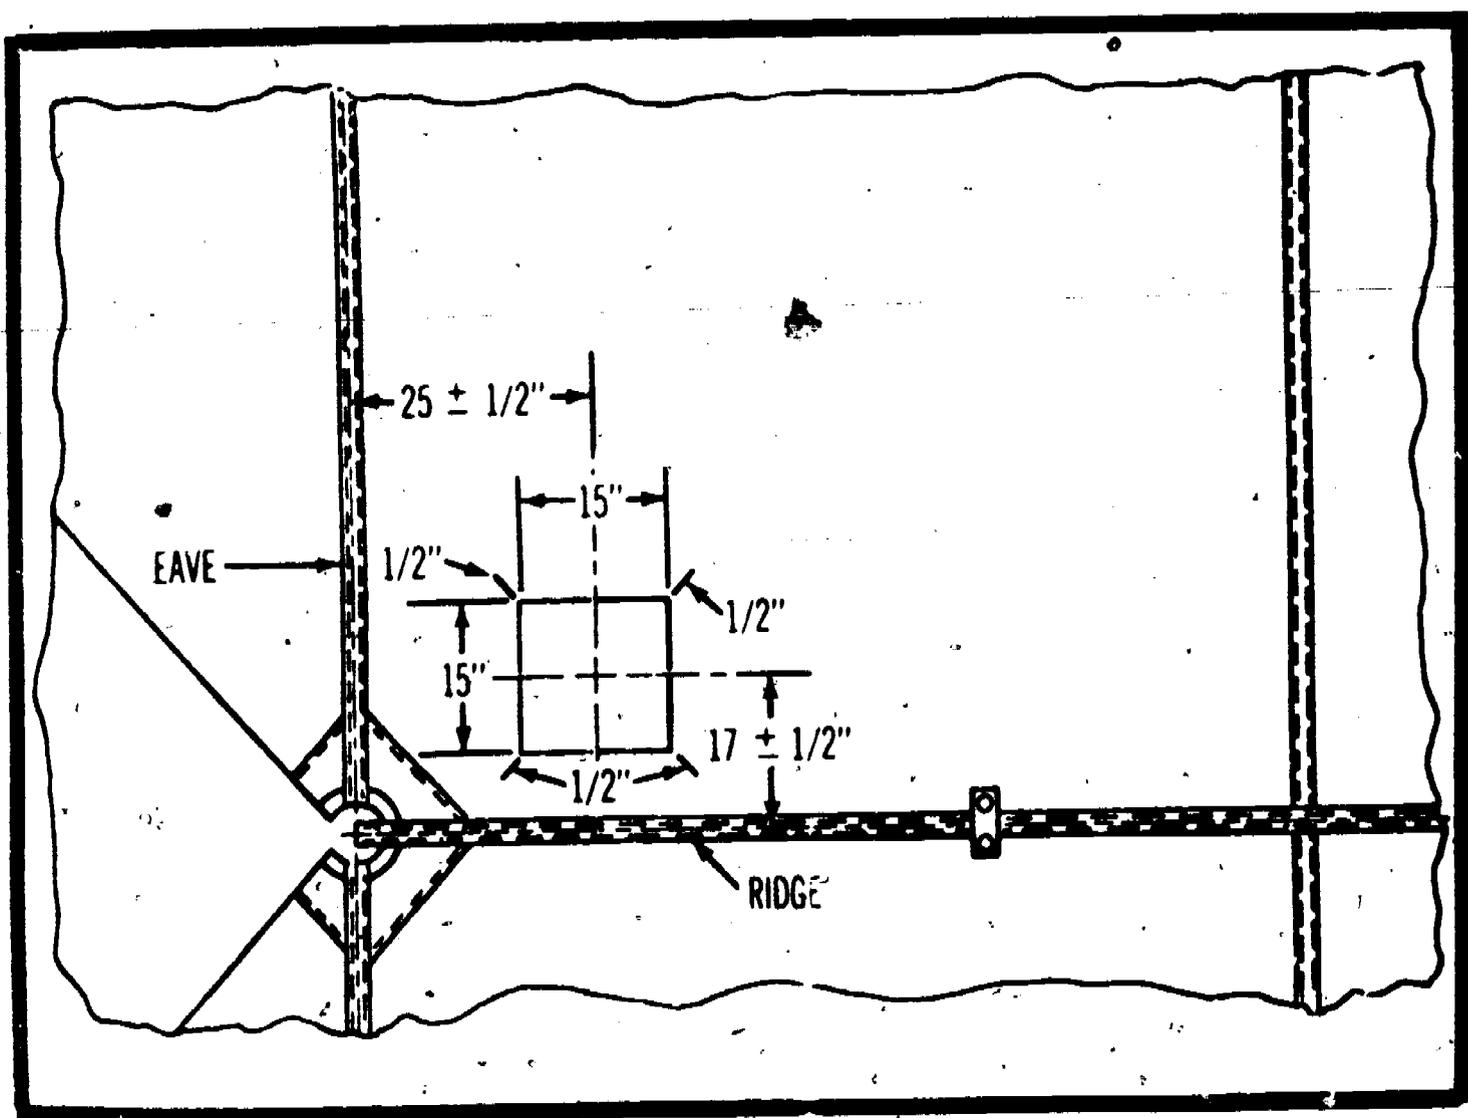
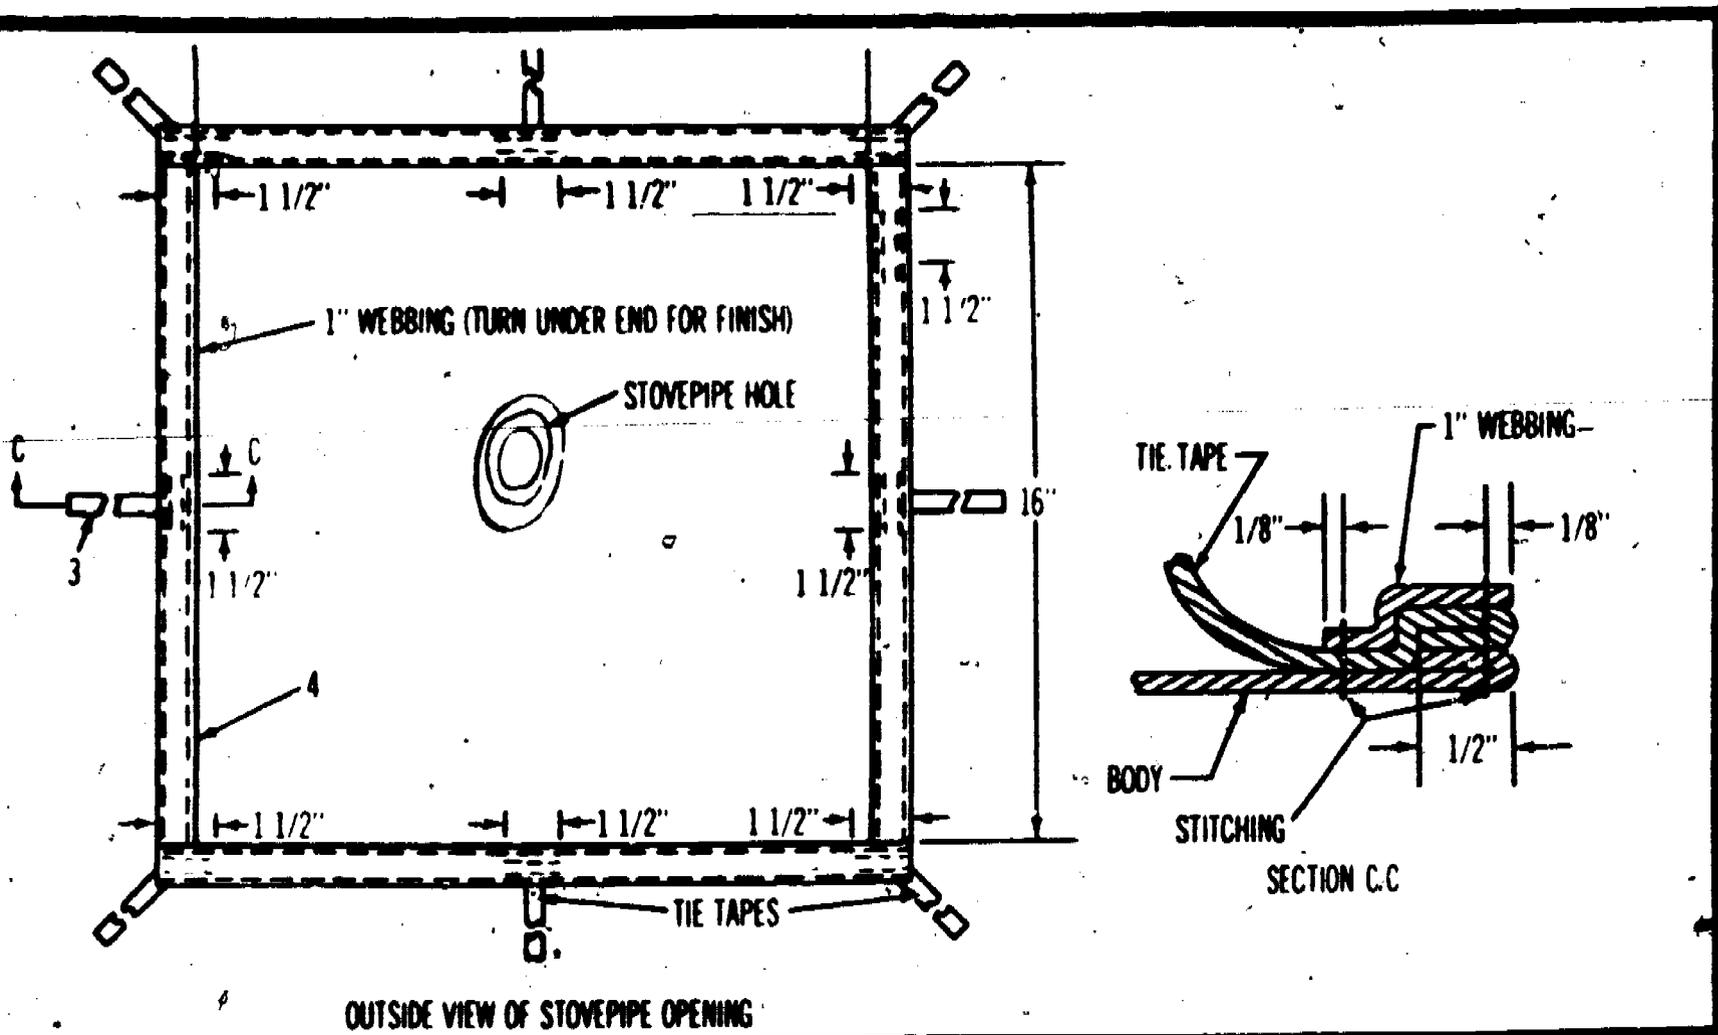

Figure 12-1. Diagram for enlarging existing stovepipe opening in tent.
Figure 12-2. Tent liner modified with webbing and tie tapes in place.
a. Modifying the tent and installing the modified stovepipe opening. Determine the center of the new stovepipe opening by measuring about 25 1/2 inches from the eave line and about 17 1/2 inches from the ridge line (fig. 12-1). Draw two intersecting lines from these two measurements. The point of intersection is the center for the opening. Cut the stitching, and remove the old-type stovepipe opening from the tent. Increase the size of the existing round stovepipe-opening hole in the tent to a 15 inch-square opening, cut the tent an additional one-half inch at the corners, and fold back the canvas one-half inch, leaving a 16-inch hole. Place the modified stovepipe opening on the inside of the tent, center it around the hole, and stitch 1-inch webbing folded in half around the perimeter of the stovepipe opening with a double row of stitches, locked at one end. Cut the webbing at the corners and at the centers, and insert eight tie tapes, as shown in figure 12-2. Restitch the webbing over the tie tapes, and secure this stitching with a 1 1/2-inch tack stitch.
b. Modifying the tent liner. Increase the opening in the tent liner to a 15-inch square opening and cut the corners one-half inch, turning the edges toward the outside (fig. 12-2). Position eight tie tapes on the outside